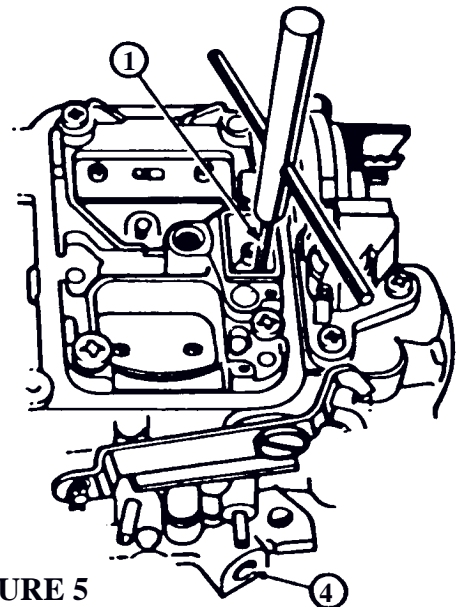

FIGURE 5
4. Using tool J-28696-10 or BT 7928 or equivalent (available from GM dealers or Snap-On tool dealers), turn lean mixture screw in until lightly bottomed and back out 2-1/2 turns (see Figure 5).
2. Run engine at 3000 rpm and adjust the lean mixture screw slowly in small increments allowing time for dwell to stabilize after turning the screw to obtain an average dwell of 35°. If dwell is too low, back screw out; if too high, turn it in. If unable to adjust to specifications, inspect main metering circuit for leaks and restrictions (see Figure 5).